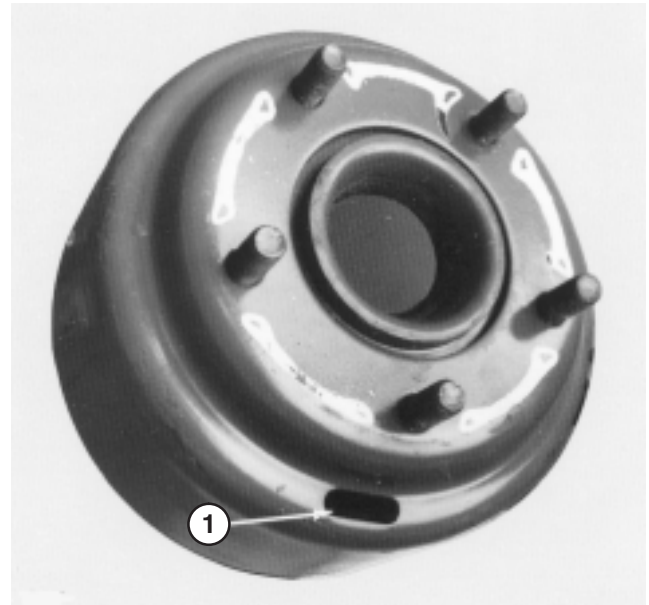

Figure 46
5. Remove wheel nuts and slide wheel and tire assembly off studs. Rotate brake drum until adjusting slot is at bottom and centered over star nut that adjusts brake shoes (Fig. 46).